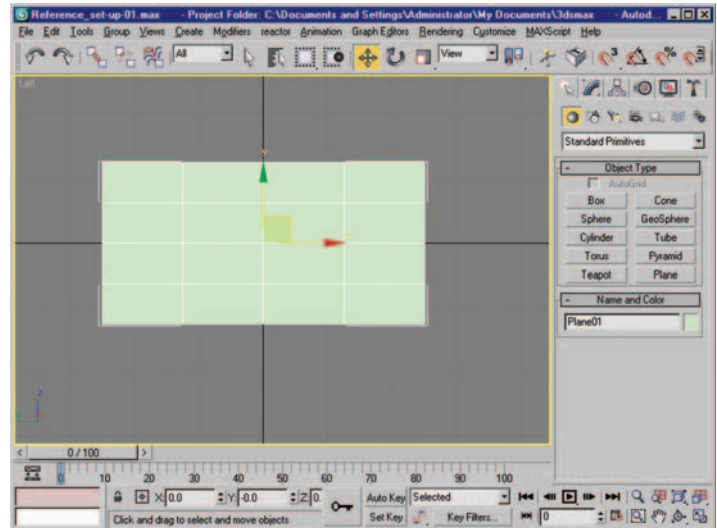

Figure 7.6 Plane moved to origin.
3. Right-click on the spinner for each of the three boxes to zero it out. This will place your plane object so that it is centered at the origin as seen in Figure 7.6. The origin is the place where the bold lines on the viewport grid intersect. The origin is located at 0, 0, 0.